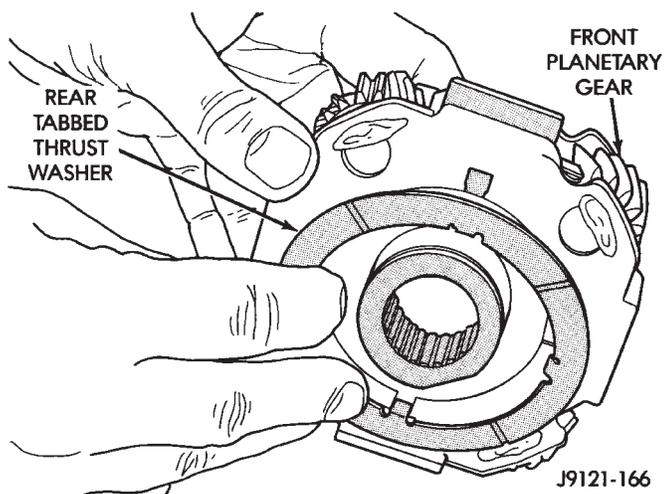

Fig. 201 Installing Rear Thrust Washer On Front Planetary Gear
(13) Install rear thrust washer on front planetary gear (Fig. 201). Use enough petroleum jelly to hold washer in place and be sure all four washer tabs are seated.